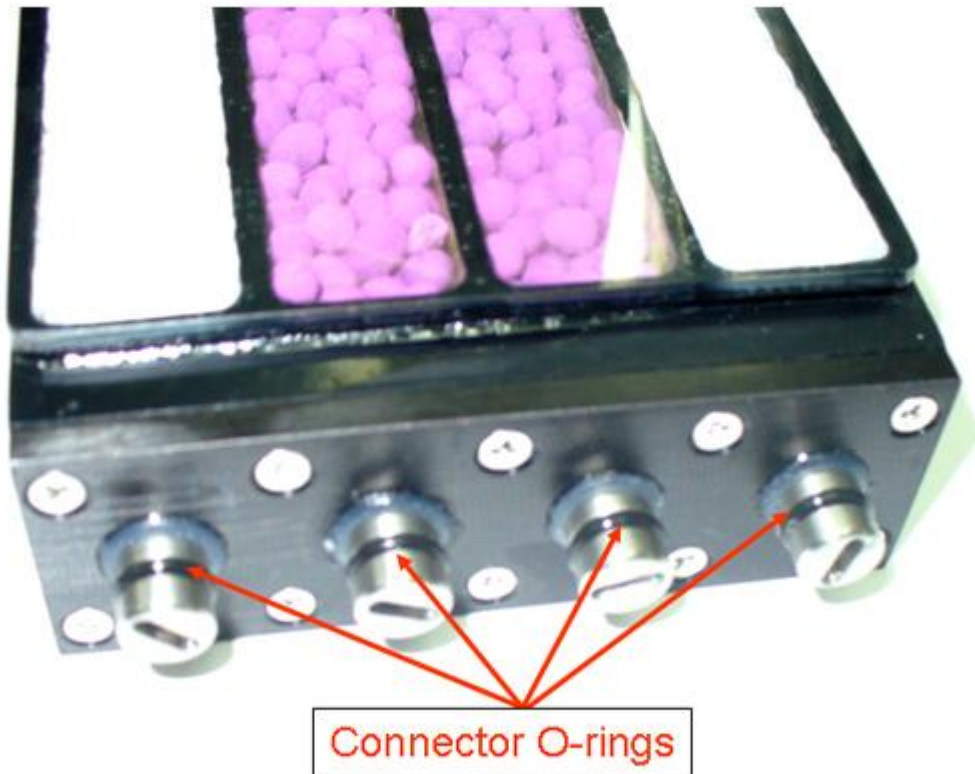

Figure 4. Connector O-rings on ABRS Air Filter Cartridge.
- 2.5 Inspect the four connector O-rings on ABRS Air Filter Cartridge (see Figure 4) and the manifold for debris or damage (see Figure 3). Clean with Dry Wipes, if necessary.